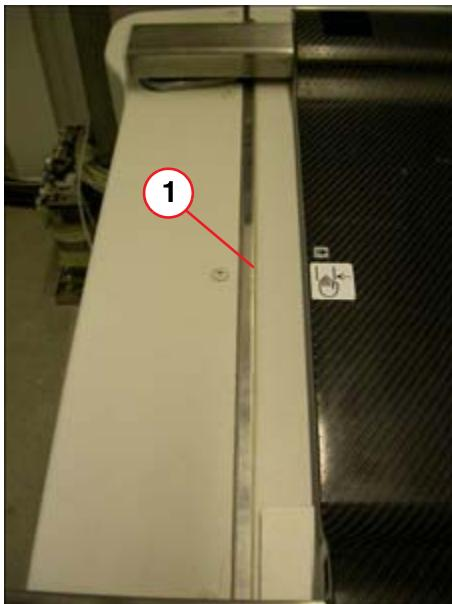

Fig. 8:
- Move the tabletop to the left with left-hand systems or to the right with right-hand systems until the sealer ring is visible (1/Fig. 8 / p. 24).